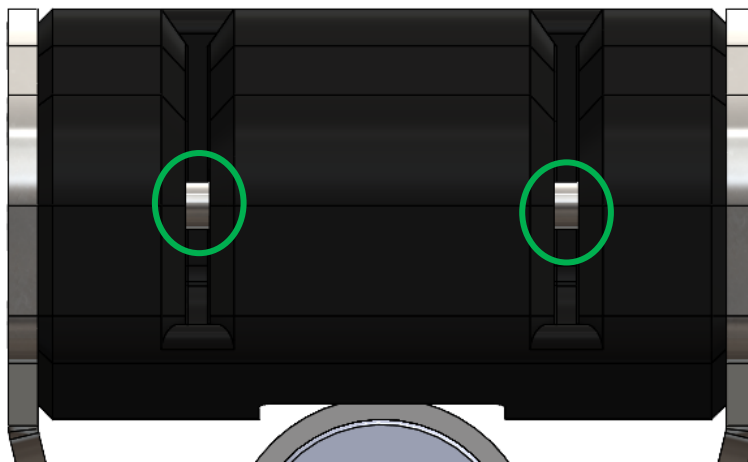

Figure 2 Shaft neutral position
1. Push the shaft to adjust its position, at the correct position the shaft exposed from the bracket module (circle in green in Figure 2), should be thinner compared to neutral position.